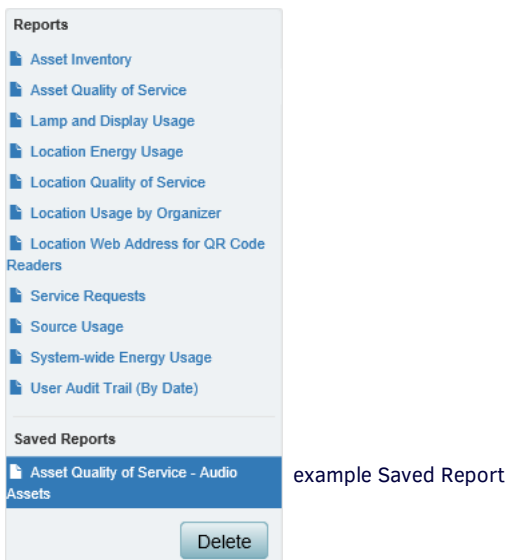

FIG. 63 Report Properties Window indicating an example Saved Report
4. Click **Save** (in the *Report Options Window*) to save this report as a Saved Report. Saved Reports are listed under *Saved Reports* in the Report Selection Window (FIG. 63):